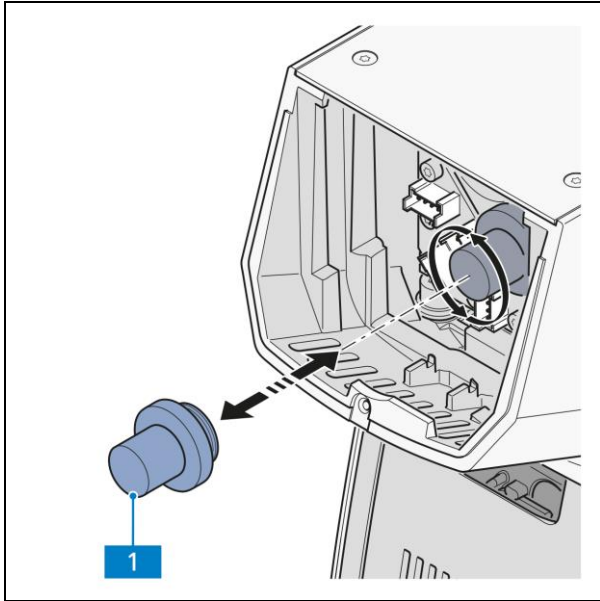

Fig. 3-25 Removing the module holder
- Unscrew the module holder (Fig. 3-25/1) from the stand socket.